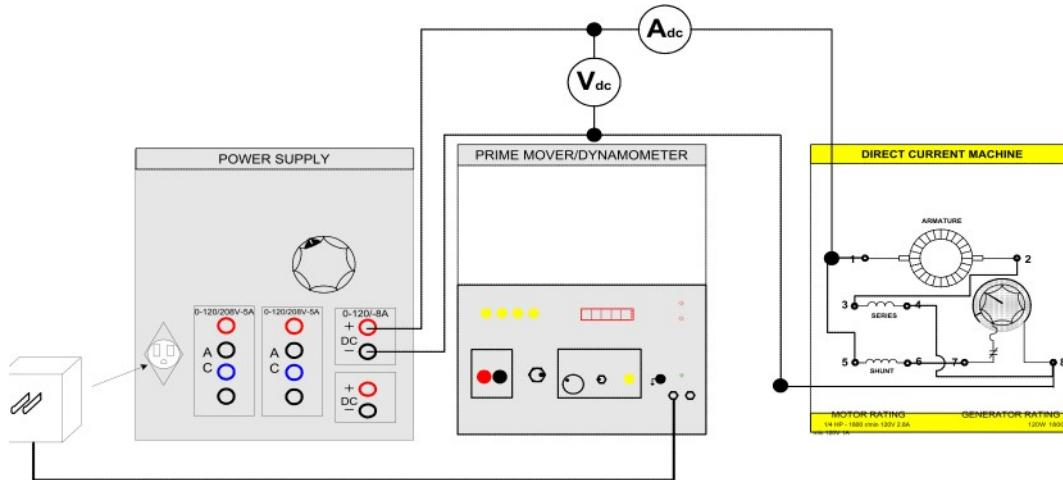

FIGURE 11.13
Step 4: Connect the shunt field, in series with the rheostat, to terminals 1 and 4 as shown in Figure 11.13.